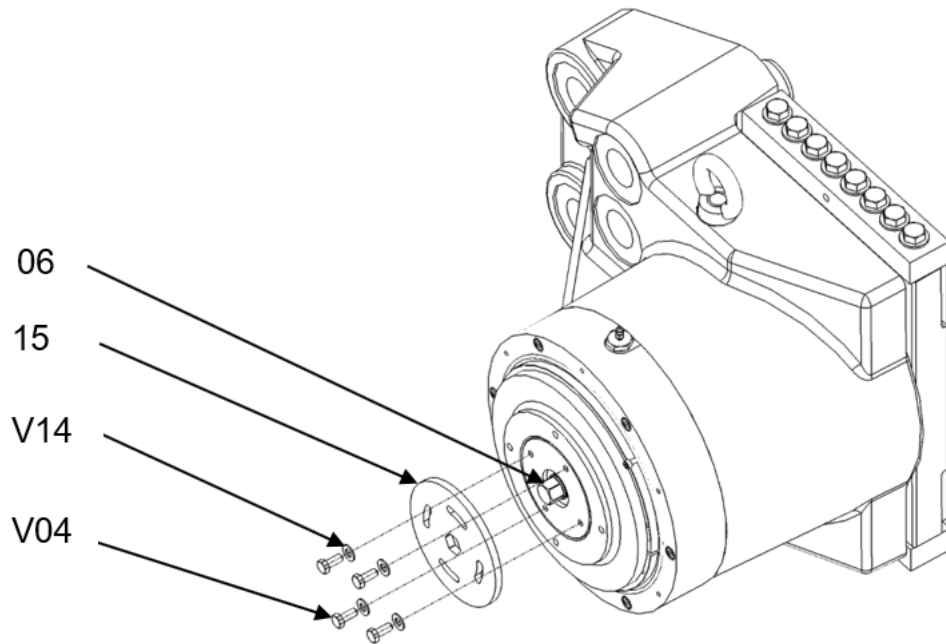

Fig. 5.4
2. For an easier handling, it is possible to remove the connector of indicator switches Fig. 5.4. Unlock the connector by inserting the screwdriver behind the connector and turning it a 1/4 of a turn counter-clockwise and then inserting the screwdriver into the slot at the side to release the connector. In 'ATEX' execution, it is not possible to remove the connector see Fig. 5.11
4. Unscrew and remove the screws **V04** and washers **V14** Fig.5.4.
5. Remove the locking washer **15** to free the wear take up screw **06** Fig.5.4.
2. Cover being removed, unscrew and remove the allen screws **V04** and washers **V14** Fig. 5.4 see chapter 5.3